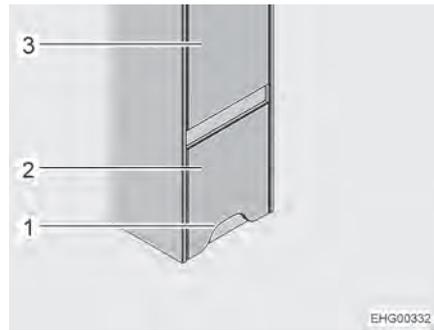
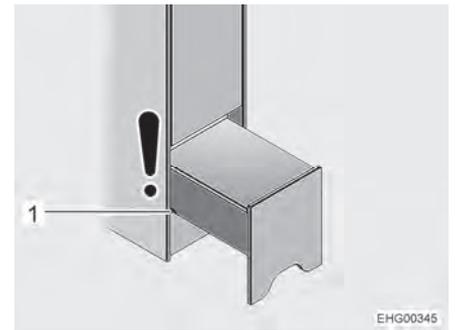

Fig. 81 Access assistance (closed)
Fig. 82 Access assistance (night position)
Position The access assistance has been installed on the right side of vehicle, underneath the wardrobe (Fig. 81,3) in front of the rear bed.
- ▷ The toilet compartment door is opposite to the access assistance. As long as the access assistance has only been pulled out partially ("night position", see Fig. 82), it is still possible to open the toilet door. If the access assistance has been entirely pulled out to obtain access to the storage compartment, it is no longer possible to fully open the toilet compartment door.
- Grab the access assistance (Fig. 81,2) by the cut-out (Fig. 81,1), lift it slightly and pull it out up to the first groove (Fig. 82,1) (night position).